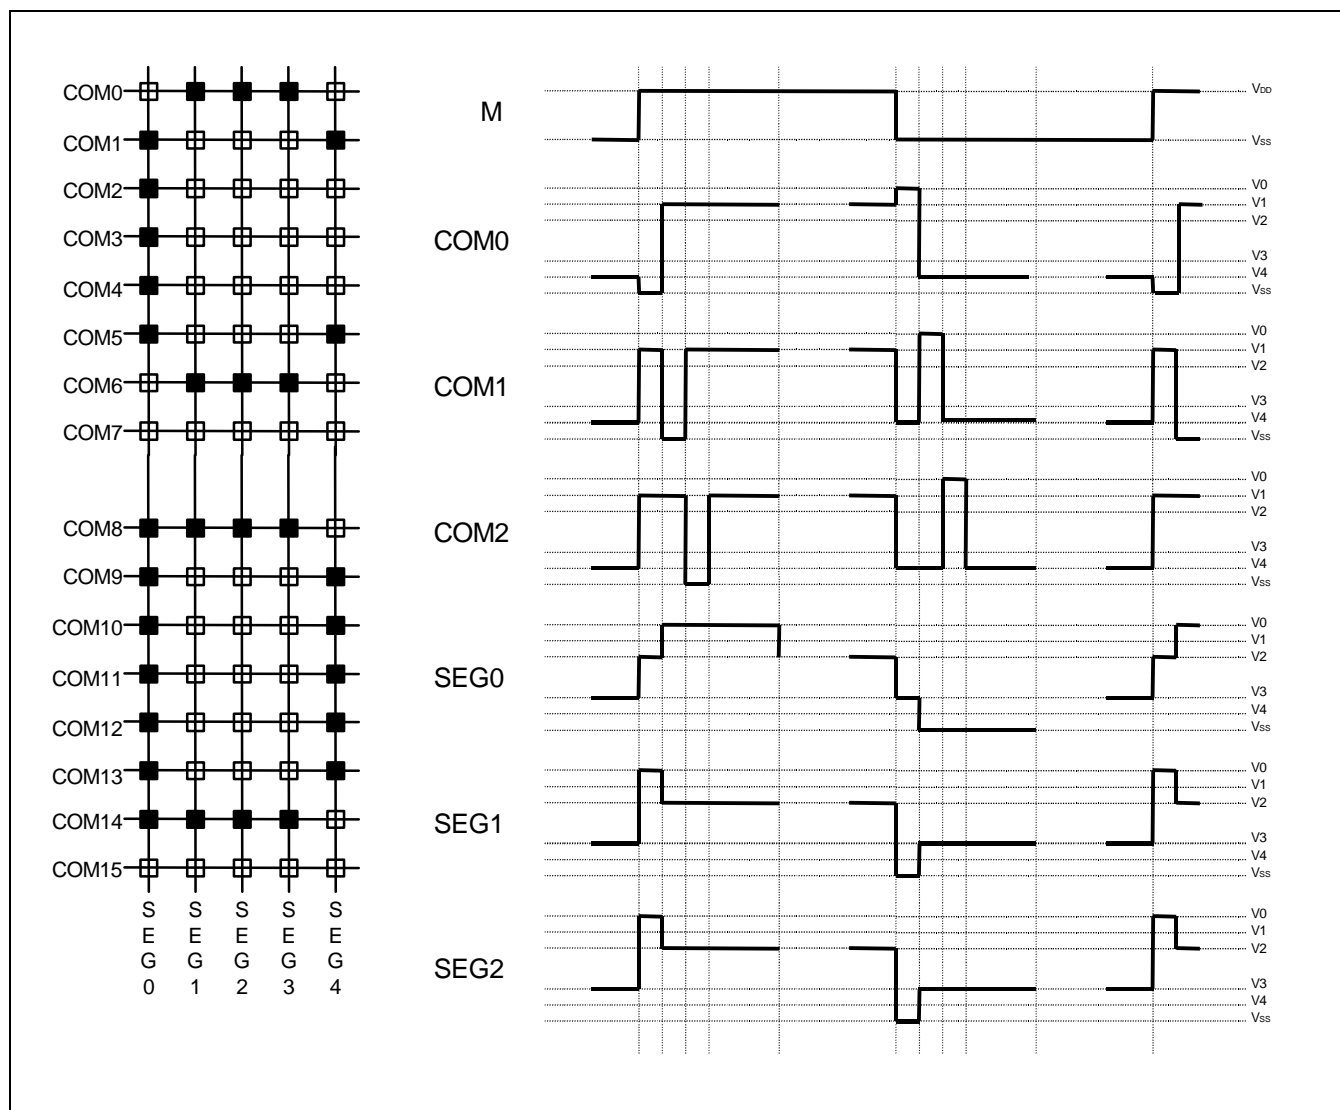

Figure 10. Segment and Common Timing
This circuit generates some signals to be used for displaying LCD. The display clock, CL, generated by oscillation clock, generates the clock for the line counter and the signal for the display data latch. The line address of on-chip RAM is generated in synchronization with the display clock (CL) and the 100-bit display data is latched by the display data latch circuit in synchronization with the display clock. The display data, which is read to the LCD driver, is completely independent of the access to the display data RAM from the microprocessor. The display clock generates an LCD AC signal (M) which enables the LCD driver to make a AC drive waveform, and also generates an internal common timing signal and start signal to the common driver. Driving 2-frame AC driver waveform and internal timing signal are shown in figure 10.